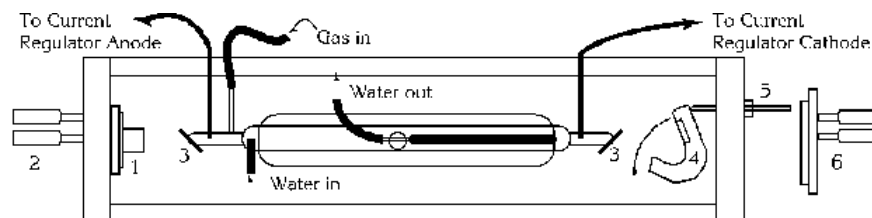
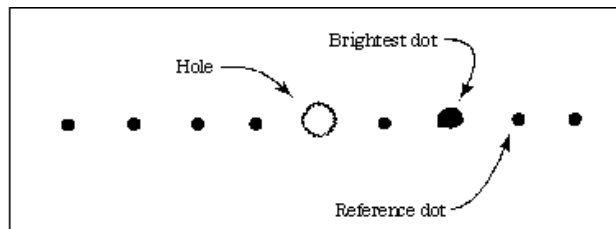

Figure 11: The Laser (top view)
Figure 16: HeNe interference pattern
Swing the grating into place taking care not to touch its expensive optical surface. The grating functions in place of the back-mirror and will allow you to align the laser for one lasing wavelength at a time. Once again you will use the Red alignment laser as an alignment tool. Rotate the mirror as before and set the laser up as before and turn it on. Place a card with a small hole in it between the back Brewster window and the grating inside the large plastic safety box. When the Red beam passes through the hole and hits the grating, you can see the reflected diffraction pattern on the card (see Figure 16). The row of dots should be horizontal, and as you move the grating, different dots should fall on top of the hole. You should only have to adjust the grating by rotating its mount around the vertical axis (see Figure 11, #5); the other orientations are fixed by what you do with the HeNe. If you cannot make the HeNe interference pattern horizontal, it is possible that the grating is not aligned along its other axes and you should see the staff for assistance. It does not help to turn the small allen-head screw that rotates the grating within its mount, don't do it. (THIS WILL CAUSE A LOSS OF TIME FOR YOU)
Align the grating so that the reflected *reference-dot* (see Figure 16) returns to the output port of the HeNe laser. This grating angle is very close to the proper alignment for the P(20) line. You will have to adjust the grating slightly later since the diffraction pattern of the HeNe is only a measuring tool and this reference dot does not coincide exactly with the CO₂ P(20) line. Use a rubber band to hold the grating in position against the micrometer.